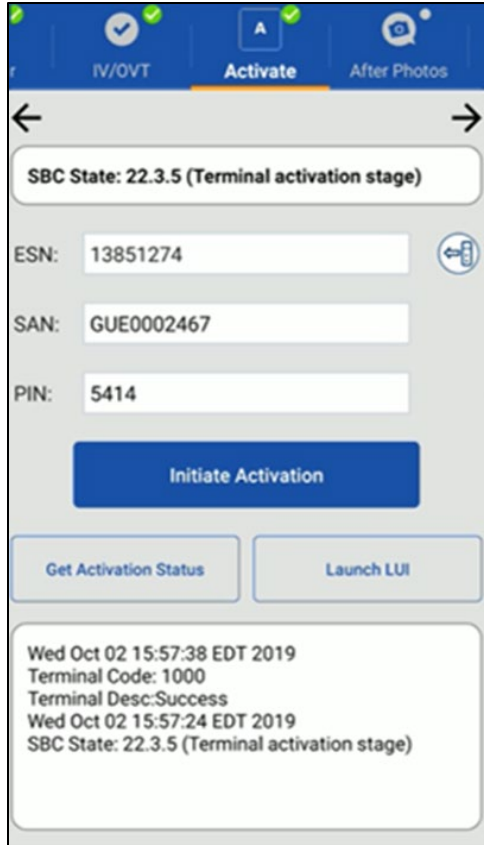

Figure 59: Activate screen
2. The SBC state on OASIS will turn to 22.3.5, terminal activation stage (see Figure 59).